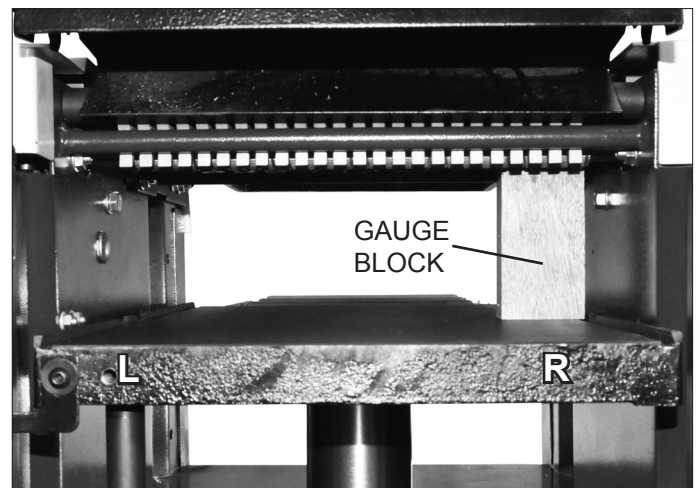

FIG. 18
3. Place a Gauge Block (FIG. 18), or other measuring tool, onto the planer table and directly under the cutterhead at one end (Position R).